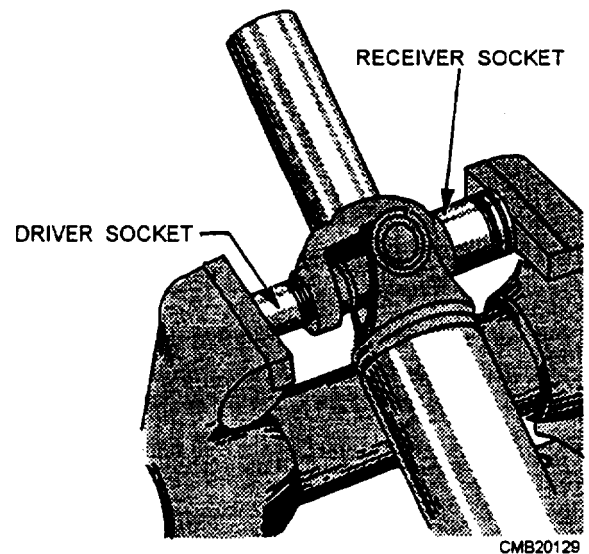

Figure 5-11.—Universal joint removal.
8. Use two sockets—one LARGER than the bearing cap and one SMALLER than the bearing cap. Place the SMALLER socket on the bearing cap of the universal joint (fig. 5-11). The LARGER socket is to be placed over the outside diameter of the bearing cap on the opposite side of the joint (fig. 5-11).